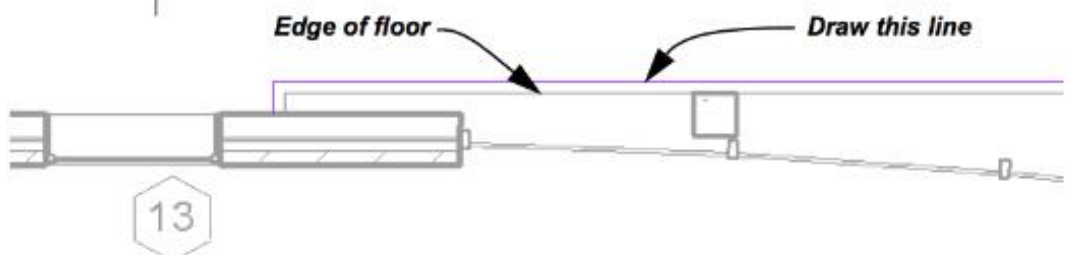

Figure 12-42
4. Draw a sketch line that is **75mm** from the edge of the balcony floor over the lobby of the hotel, as shown in Figure 12-42. Ensure that you include the curved portion at the far end.